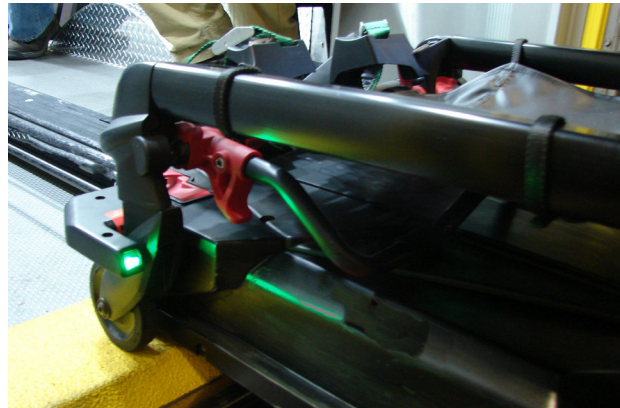

Figure 56
5. Push the cot into Power-LOAD until the cot load wheel pins lock into position as shown in Figure 56. Ensure that the cot is aligned with the lifting arms when loading.